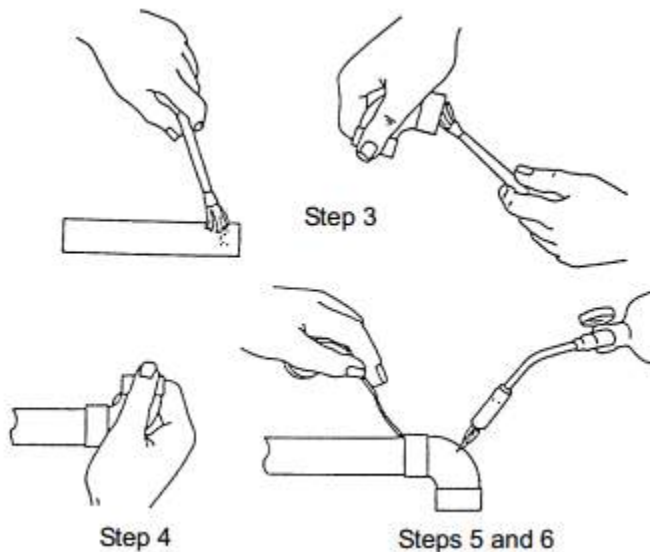

Figure 2.31 Steps of make soldered joint
Step 3. Apply a thin coat of flux to the shined end of the tubing and fitting (as Figure 2.31).
Step 4. Push the fitting onto the tubing and give it a quarter turn to spread the flux evenly (as Figure 2.31).
Step 5. Heat the connection with a torch, applying the flame on the fitting (as Figure 2.31).